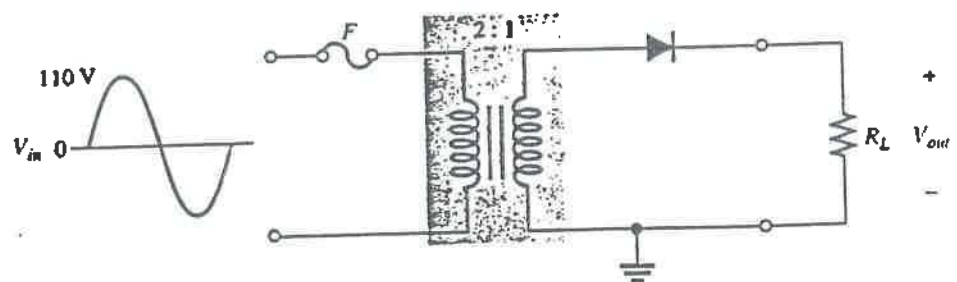

FIGURE 2-10
Determine the peak value of the output voltage for Figure 2-10.
- (a) Determine the peak value of the output voltage for Figure 2-10 if $N_{sec}/N_{pri} = 2$ and $V_{p(in)} = 220 \text{ V}$.